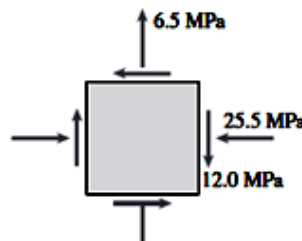

Figure: 3
8. An element in plane stress is subjected to the stresses in the directions shown in figure 3. Determine the stresses acting on an element oriented at a counter clockwise angle of 40° from the horizontal. Show these stresses on a sketch of an element oriented at this angle. Also find the principal stresses and maximum shear stresses along with their orientations. [10]